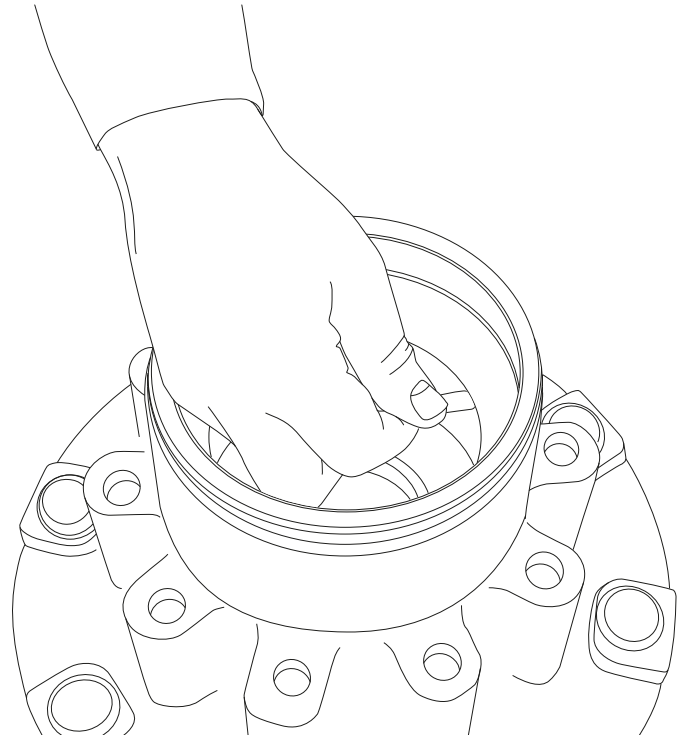

Figure 94: Checking Bearing Cup Installation
7. Check the cup is completely home in the hub by attempting to insert a 0.05 mm (0.002 inch) feeler gauge between the cup and the hub bearing-stop. If the cup is correctly installed, the feeler gauge will not fit. Refer Figure 94.